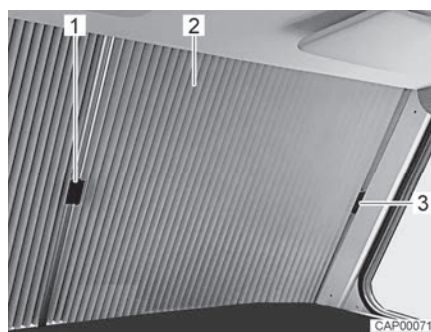

Fig. 5 Roman shade for windscreen (closed)
- Push the respective handle (Fig. 5,1) of both halves of the Roman shade (Fig. 5,2) outwards, underneath the cover on the A column.
- Fix the handles respectively by plugging them onto the cover (Fig. 5,3). Thus, the windscreen shade is secured against closing involuntarily during the journey.